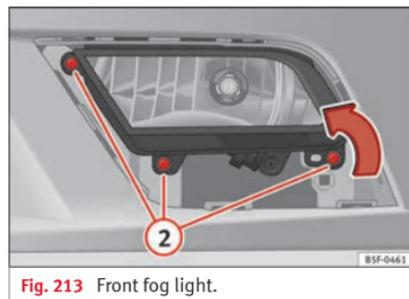

Fig. 213 Front fog light.
- Remove the bolts (3x) » Fig. 213 ② to remove the fog light.